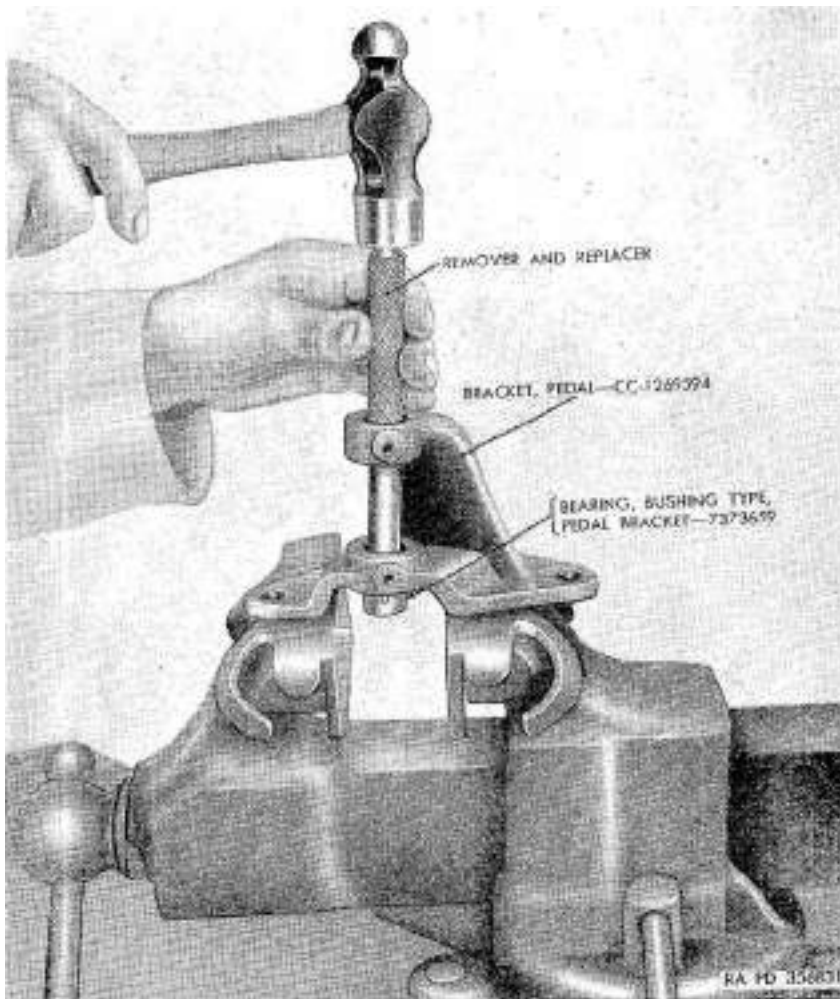

Figure 157. Removing pedal bracket bushing-type bearing from pedal bracket with a bushing remover and replacer.
- (1) Remove 45° $1/4-28\text{NF}$ lubricating fittings (C and D) from pedal bracket assembly.
- (2) If inspection (par. 177) reveals that replacement of pedal bracket bushing-type bearings (E and G) is necessary, place pedal bracket assembly over open jaws of a vise and drive bearings from bracket assembly with a bushing remover and replacer (fig. 157).